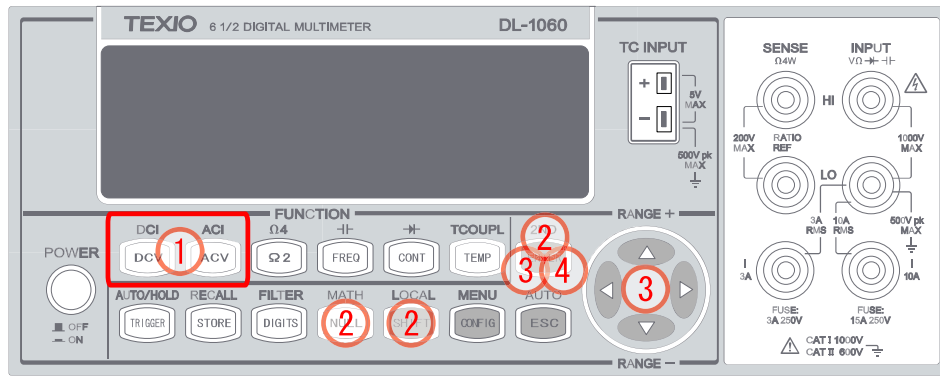

Figure 3-27
1. Select a measurement function by pressing DCV or ACV button as shown in **Figure 3-27**.